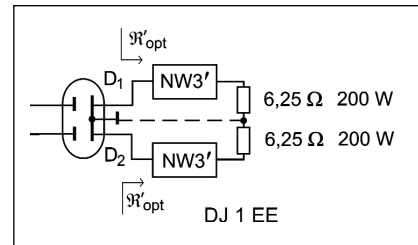
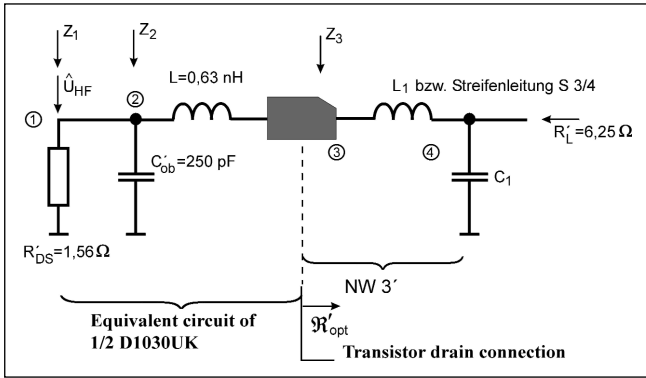

Fig 9.75: Network NW3
Fig 9.76: The equivalent circuit of half D1030UK
To make the computation a bit clearer, Fig 9.75 shows that the real load is divided from 12.5 ohms to  $2 \times 6.25$  ohms. The network NW3 must be designed to match the optimal load resistance  $R'_{opt}$  at half of the total output of 200W with the internal values of the transistor shown in Fig 9.76. The value  $R'_{opt}$  is shown in the SEMELAB data sheet. The internal load resistance  $R'_{DS}$  can be determined from the effective RF Drain voltage  $V'_{RF}$  at 200W. The effective RF voltage is close to the supply less 'the bottoming voltage'  $V_K$  (assumed to be 3V):
**Calculating the value of L1 in Fig 9.76**